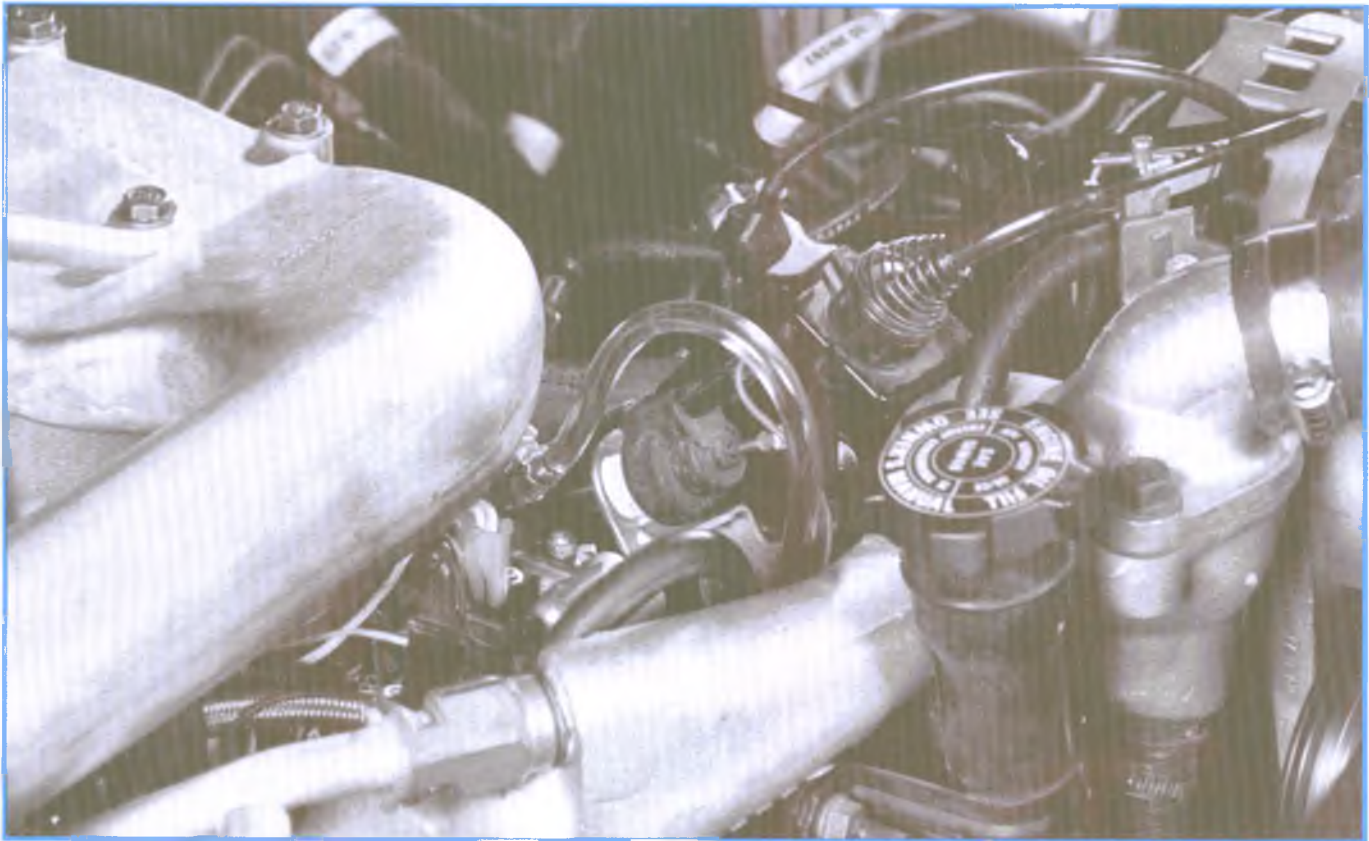

Figure 7-72, Check for Air in Fuel at Injection Pump Outlet
- C. Start and run the engine, observing the fuel for air bubbles (see Figure 7-72):